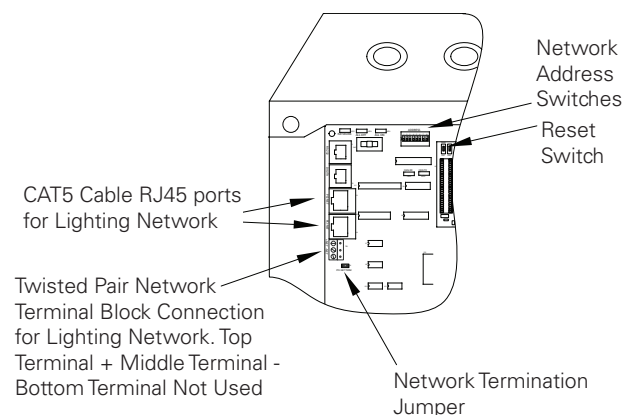

Figure 6: Item Reference for Network Details
- Set all panel addresses using the panel network identification dip-switches on each panel. See Figures 6 & 7 for location and details.